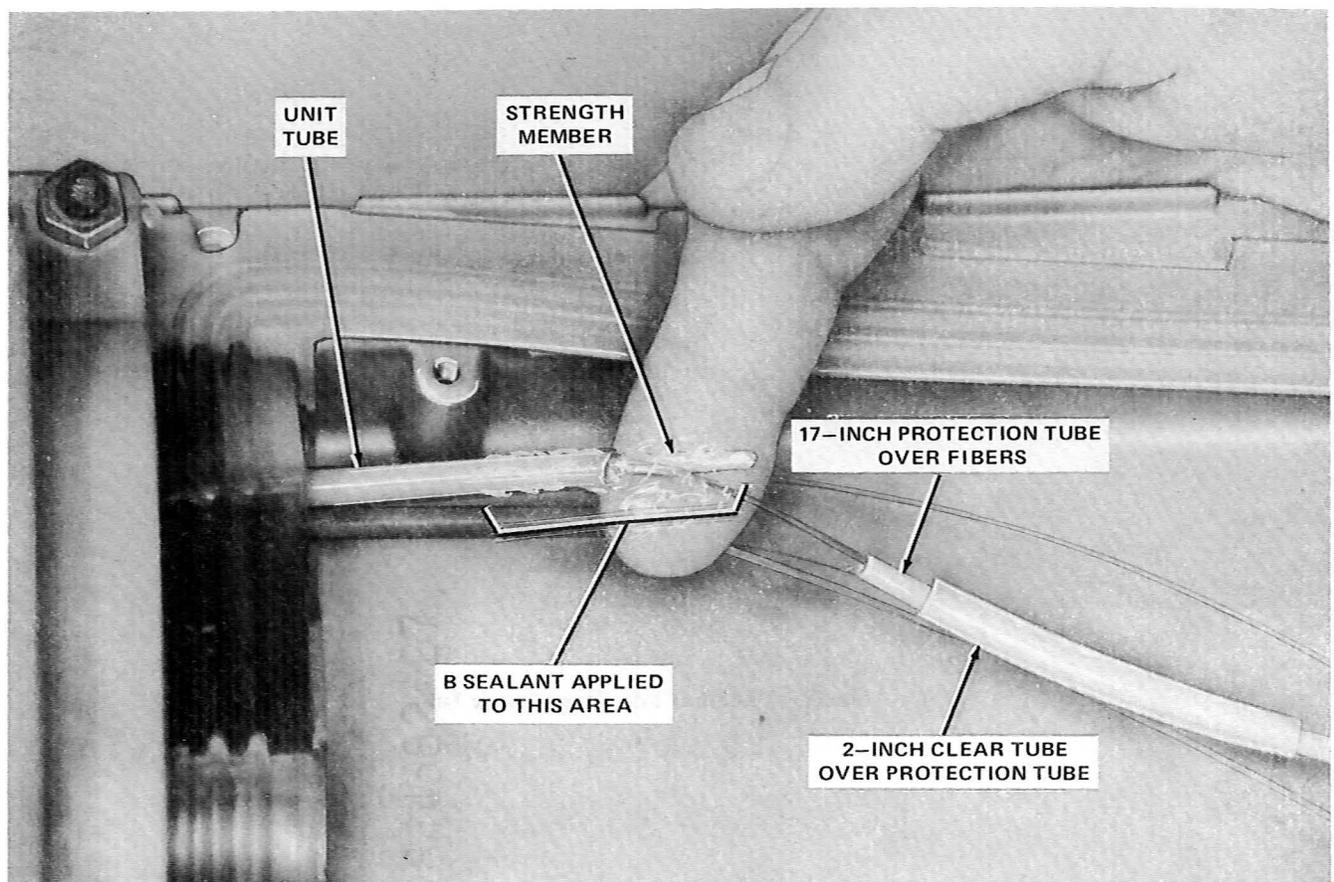

Fig. 50—Placing Tubes Over Fibers
7.10 Place the 2-inch clear tube over the 17-inch protection tube and then slide the cleaned fibers into the protection tube, as shown in Fig. 50.
7.11 Starting at the end of the unit tube, apply B sealant to approximately 1 inch of the fibers. Also apply sealant to the end of the unit tube and the strength member. (See Fig. 50.) Work the B sealant in by hand to ensure adhesion to all surfaces.